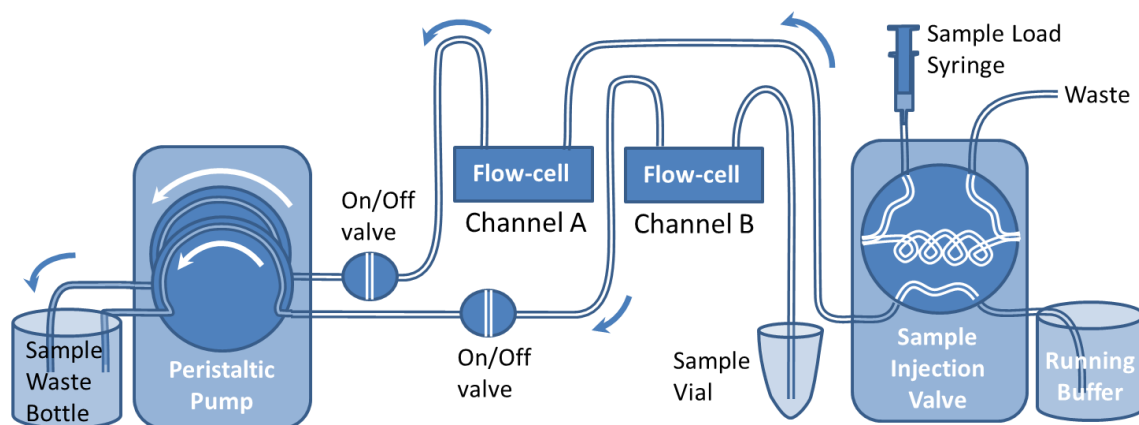

Figure 12: QCM-I Sample and flow setup.
The standard QCM-I sample and flow setup is shown in Figure 12. In the simplest case shown on Channel B, buffer solution or the sample, is sucked up directly from the sample vial into the flow-cell, controlled by starting and stopping the pump. Alternatively, shown on Channel A, running buffer is sucked continuously from a buffer reservoir through the injection valve into the flow cell. The sample is loaded onto the fixed volume injection loop of the injection valve and injected during continuous buffer flow, controlled by the software; c.f. QCM-I Software Manual. More details on the how to operate the fluidic setup are given in the following sections, as well as in the Peristaltic Pump and Valve Manuals.
5. Navigate to the Pumping Menu and Set the Mode to "Rate". Set the units to ul/min, the flow rate to 50-100 ul/min and pump direction so that the pump sucks the solution through the flow-cell – Anti-clockwise for the setup in Figure 12.